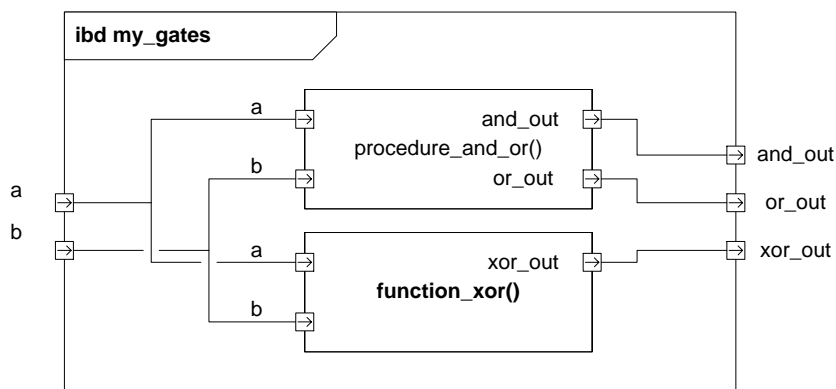

FIGURE 1: MY_GATES IBD
- 1) Implement the design entity: "my_gates". The design must consist of a function: "my_xor" and a procedure: "my_and_or". Use the interface described in figure 1. Compile your design in Quartus II and view the output in the Netlist Viewers->RTL Viewer. *How does it compare with your design?*